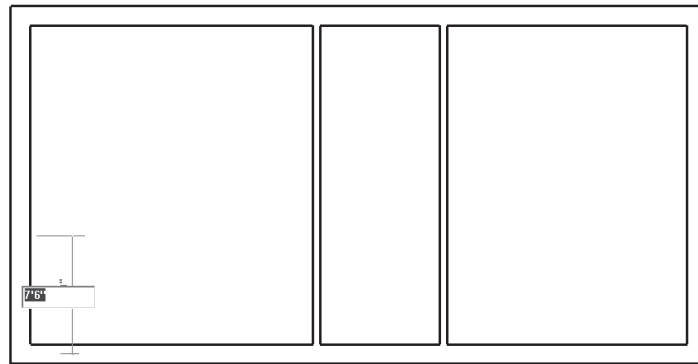

Figure 3-56 Specifying the distance for sketching the third internal wall
3. Move the cursor to the lower left corner and then move it vertically upward. When the temporary dimension appears, enter **7'0"** to select the starting point of the third interior wall, as shown in Figure 3-56.